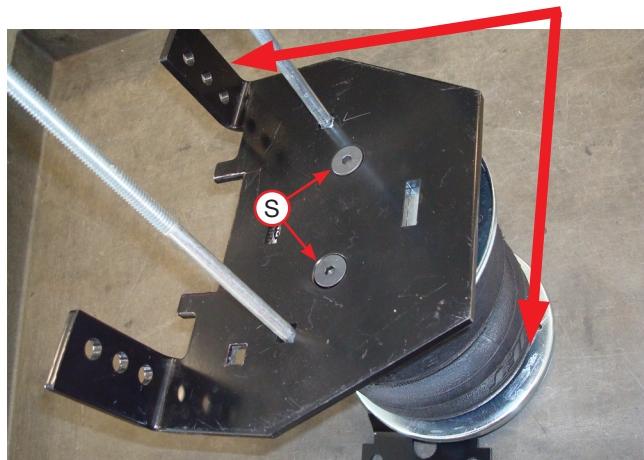

Fig. 12
- Set the lower bracket main plate assemblies onto the air springs with the roll plates installed. Attach with the 3/8"-24 x 3/4" flat-head socket-cap screws (S) (Fig. 12). Torque the hardware to no more than 20 lb.-ft. (27Nm).